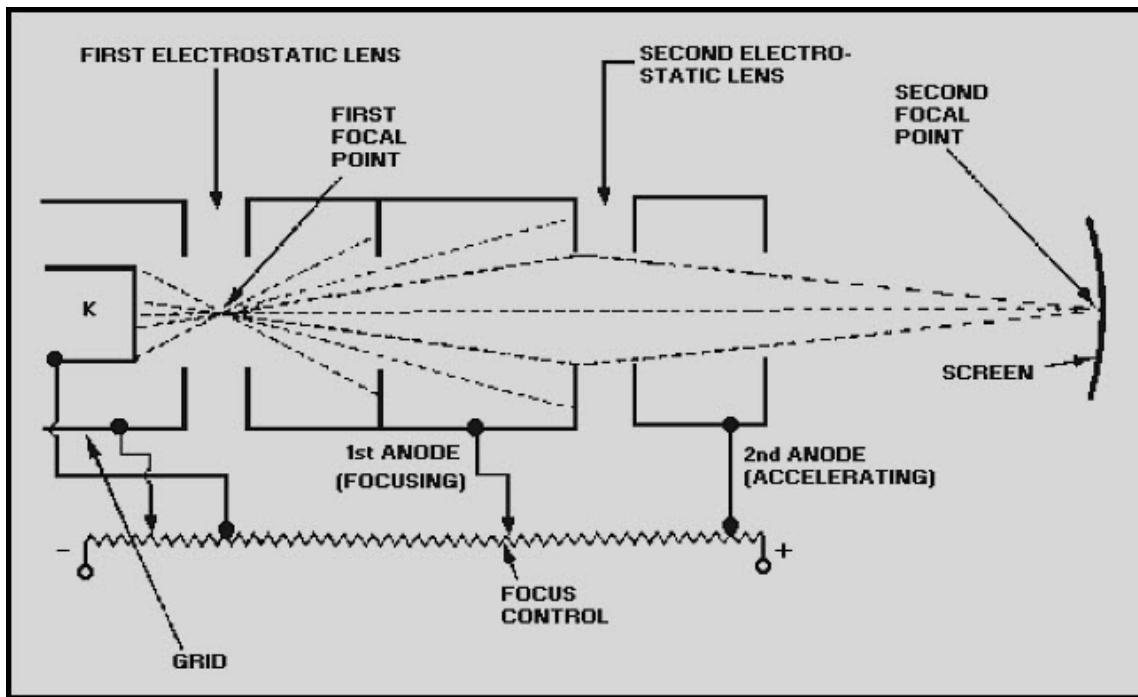

Figure 6-2 Formation of an electron beam
Figure 6-2 shows you how electrons move through the electron gun. The electrostatic field areas are often referred to as LENSES because the fields bend electron streams in the same manner that optical lenses bend light rays. The first electrostatic lens cause the electrons to cross at the first focal point within the field. The second lens bend the spreading streams and return them to a new, second focal point at the CRT.
Figure 6-2 also shows the relative voltage relationships on the electron-gun elements. The cathode (K) is at a fixed positive voltage with respect to ground. The grid is at a variable negative voltage with respect to the cathode. A fixed positive voltage of several thousand volts is connected to the second (accelerating) anode. The potential of the first (focusing) anode is less positive than the potential of the second anode. The first anode can be varied to place the focal point of the electron beam on the screen of the tube. Control-grid potential is established at the proper level to allow the correct number of electrons through the gun for the desired image intensity.